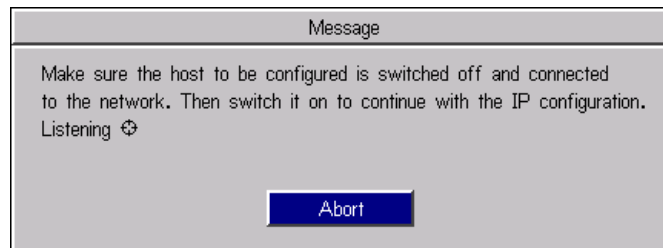

Figure 2-7: IP Configuration Message Box
- 10** Click OK. The message box shown Figure 2-7 appears.